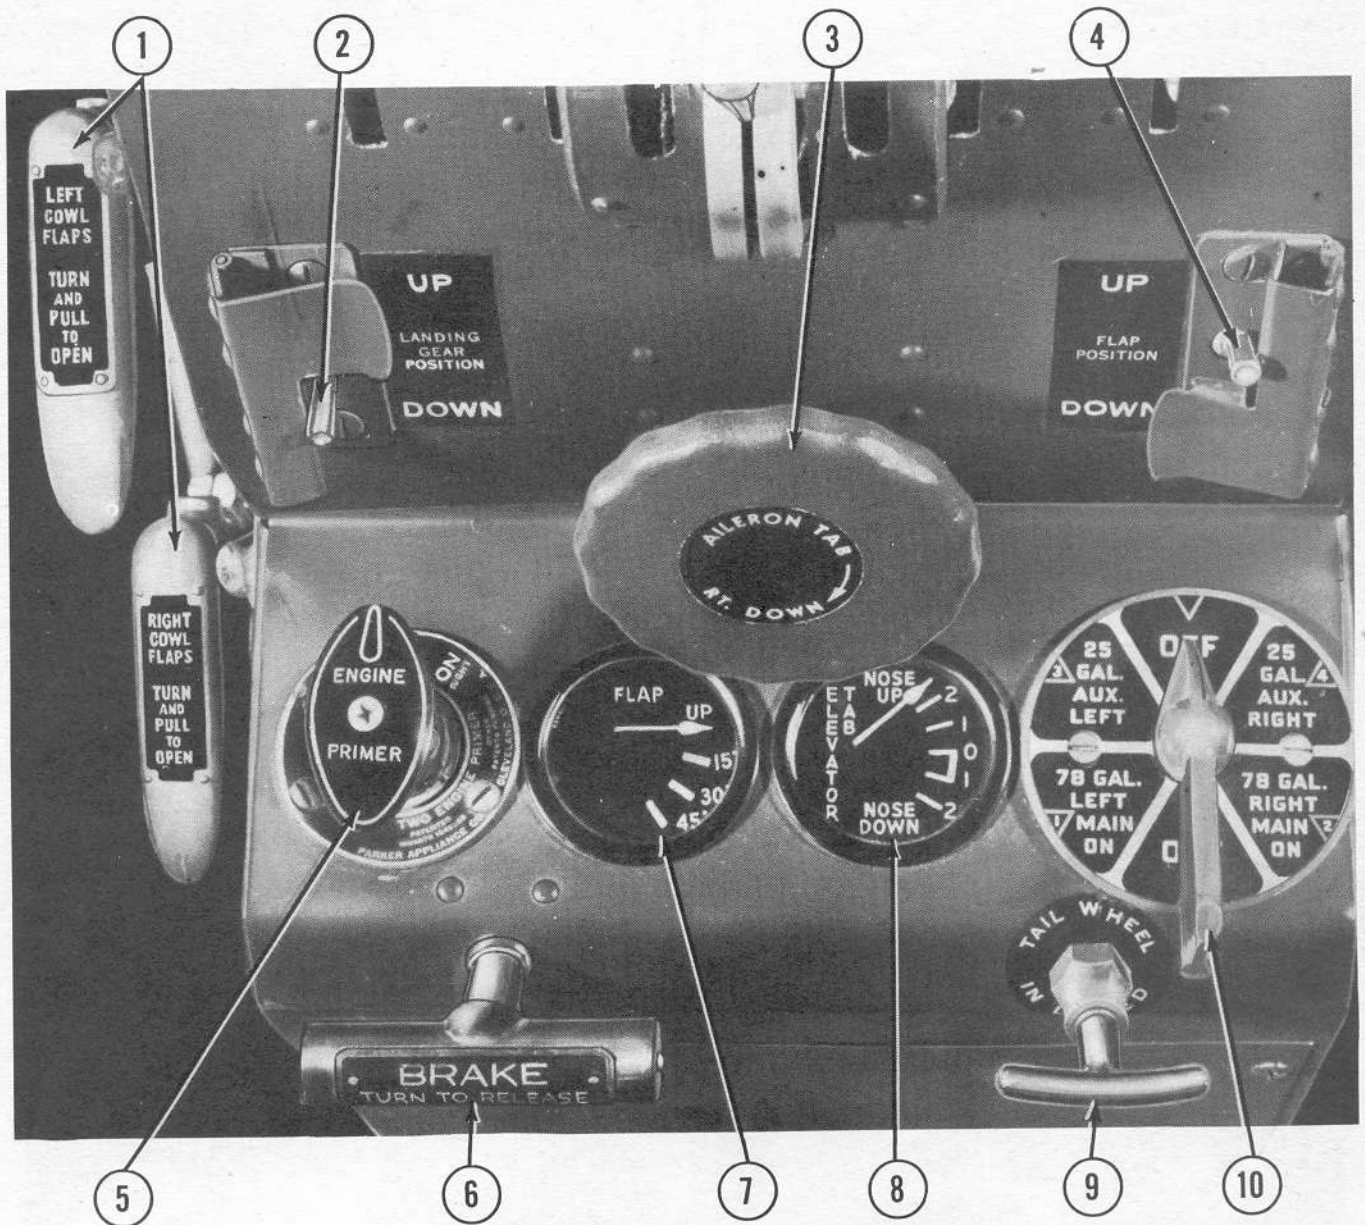

Figure 33—Pilot's Control Pedestal Step
(4) FUEL TANK SELECTOR VALVE.—The fuel tank selector valve (figure 33) is mounted on the control pedestal step. Fuel may be used from any one tank by turning the valve to designated tank as shown on the placard. Take-offs and landings should be made on fullest main tank. Auxiliary tanks should be used first in flight.
(5) ENGINE PRIMER PUMP.—The engine primer pump (figure 33) is mounted on the control pedestal step. Pushing in on pump handle, turning to left-engine position, and pumping will prime left engine in preparation for starting. Turning to right-engine position and pumping, primes right engine.
c. COWL FLAP CONTROLS.—Cowl flap controls (figure 33) are located on left side of control pedestal. Turn and pull to open, turn and push to close.
(8) Fuel tank selector valve (figure 33) on fullest main tank.
(9) Manifold pressure selector valve on position No. 2. The valve is located on the instrument panel support bracket on left of instructor's seat. For normal operation, place valve on position No. 2. For checking gages to atmospheric pressure, place valve in position No. 1. To clean out lines through open vent, place